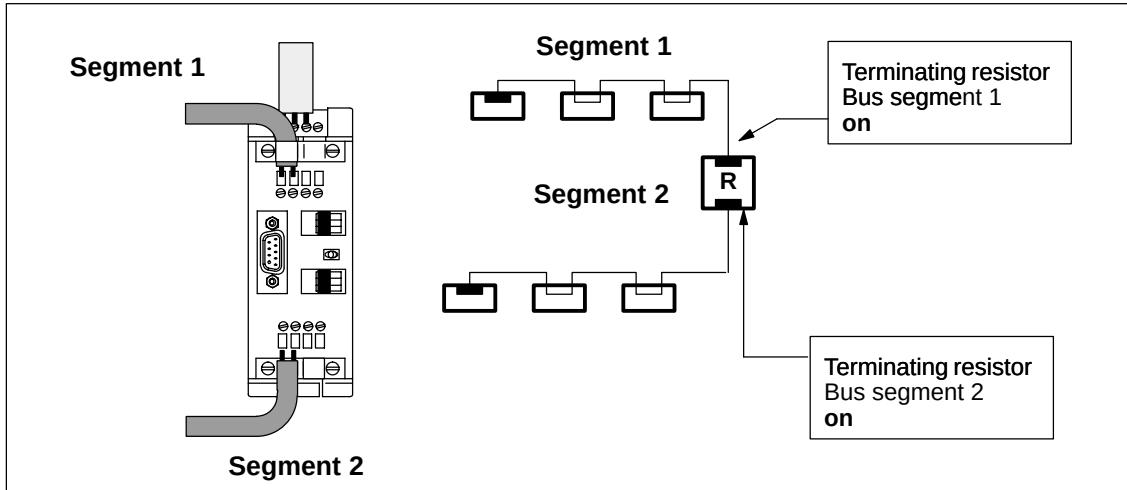

Bild 5-3 Connecting Two Bus Segments to the RS-485 Repeater
)¹ If the terminating resistor is activated, the right-hand bus attachment is disconnected (see Figure 5-3) !
- Segment 1 and Segment 2 terminated on the RS-485 repeater (see Figure 5-3)
Figure 5-3 shows how to connect the RS-485 repeater to the ends between two segments: